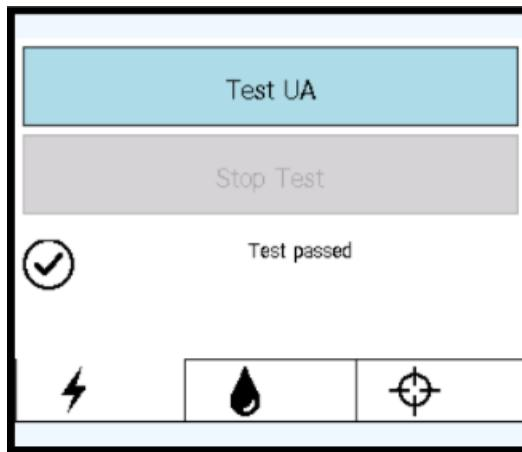
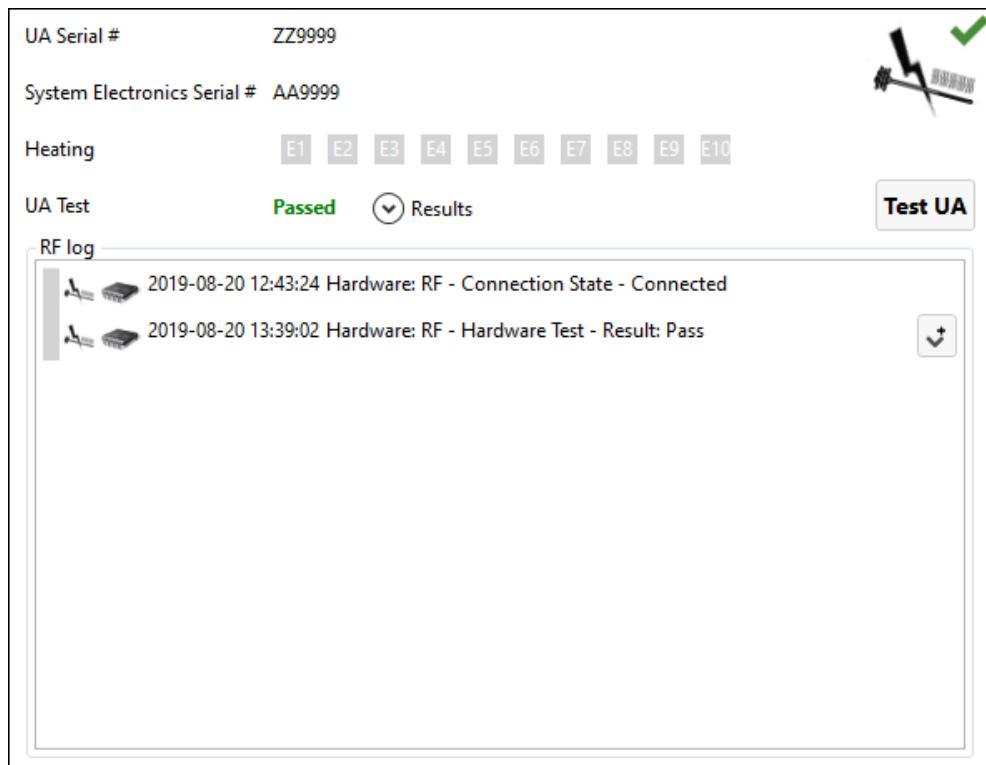

Figure 14: RF tab on PSIB display after successful RF connectivity test
Figure 15: RF information box in Setup workspace after successful RF connectivity test
3. In the **RF** tab  of the PSIB display, click **Test UA** (*Figure 14*).
The system will send a short burst of power to each of the ten UA elements to ensure continuity and functionality of all ten channels. This can also be done from the TDC Setup workspace from the RF information box in the top-right quadrant (*Figure 15*).
When the RF connectivity test is complete, the PSIB will display a short message (*Figure 14*). You can see detailed RF connectivity test results in the RF information box of the TDC software (*Figure 15*).